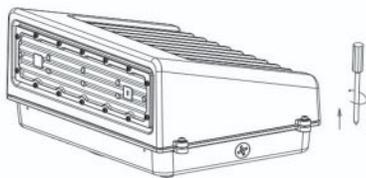

Fig. 1-1A
1. Take out the fixture, and loosen the screws on the cover and take apart the fixture by the screw driver. Pull off the quick connect terminal vigorously. (Fig. 1-1A&B)